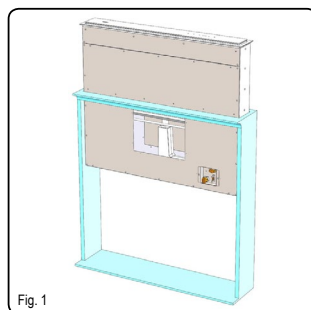

Fig. 1
- Put the Downdraft in the opening, inserting it from above as shown in (Fig. 1).